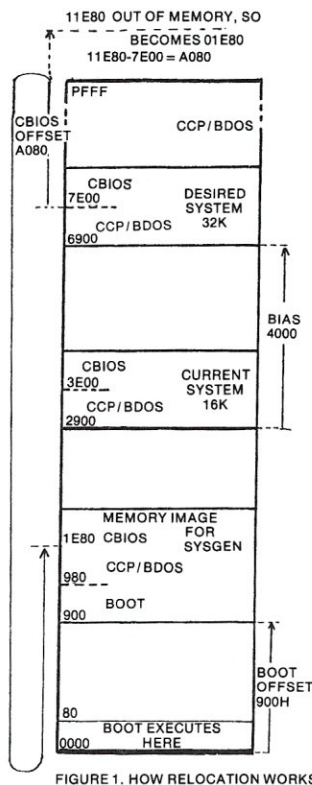

FIGURE 1. HOW RELOCATION WORKS
Let's look at figure 1. We see that our Boot has to be loaded at 900H. The execution addresses in BOOT.HEX start at 0000, and if we just used the simple Read (R) command of DDT, that is where the Boot would be loaded. However, DDT allows us to use an OFFSET with the read (R) command; this offset is added to every load address. We calculate it by taking the difference between the address where we want loading to start and the ORG address of the file. If BOOT is ORGed at 0000, the offset is 0900H-0000=900H; if BOOT is ORGed at 80H, the offset is 0900-0080H=880H. If we don't have a hex calculator (such as the TI Programmer), we can use the hex arithmetic command (H) of DDT; the command:
Things become a little more tricky when we come to the CBIOS. Look at figure 1 for a moment. Moving the Boot to the Memory Image area was simple, because we were moving it upward. But to get the CBIOS shifted from its execution address of 7E00 to 1E80 in the Memory Image area, we have to shift it DOWNWARD. Unfortunately, DDT can only ADD an offset to, not subtract it from, the file load address. However, we can still use a positive offset that will bring us to the right place, because the CPU address counter has only 16 bits; thus, if we add 1 to address FFFF we get 10000 -- but the counter has no place to put the leftmost digit, so we come back to 0000. We see, then, that to shift a program downward in memory, we have to give DDT an offset that will push the program up off the top of memory and bring it upward through the bottom. A Two's Complement subtraction of the larger address from the smaller will do precisely this.